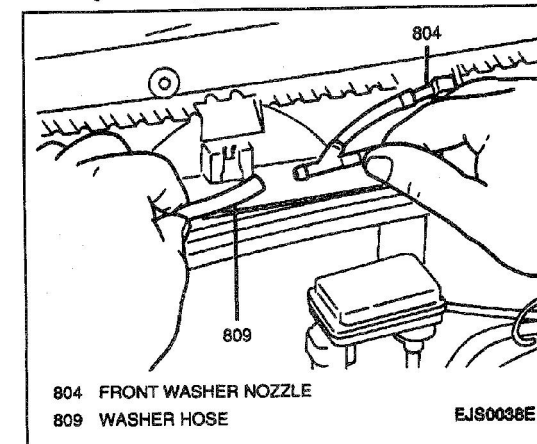

Figure 5—Disconnecting Washer Hose
5. Washer hose from front washer nozzle (Figure 5).
1. Front washer hose from nozzle (Figure 5).